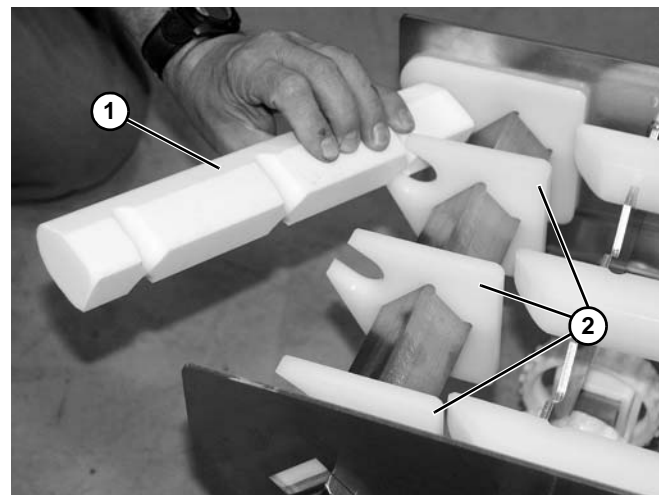
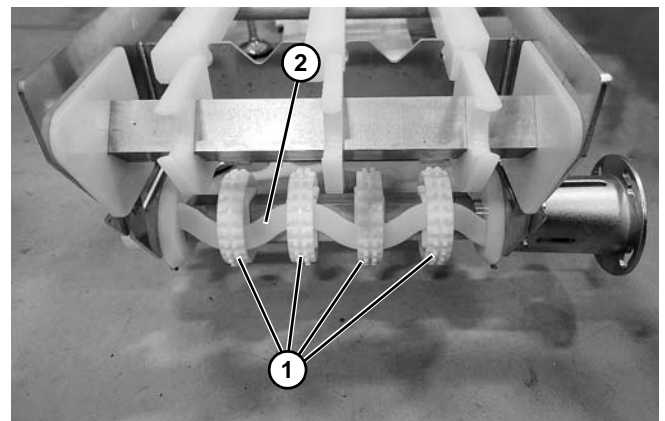

Figure 42
Figure 43
- e. Nose Bar Drive Tail: Remove nose bar return strip (**Figure 42, item 1**) and place in COP tank. Clean nose bar components, slide nose bar pucks (**Figure 42, item 2**), and clean again. Clean drive sprockets (**Figure 43, item 1**) and module, disengage sprocket alignment key (**Figure 43, item 2**), slide sprockets, and clean again.